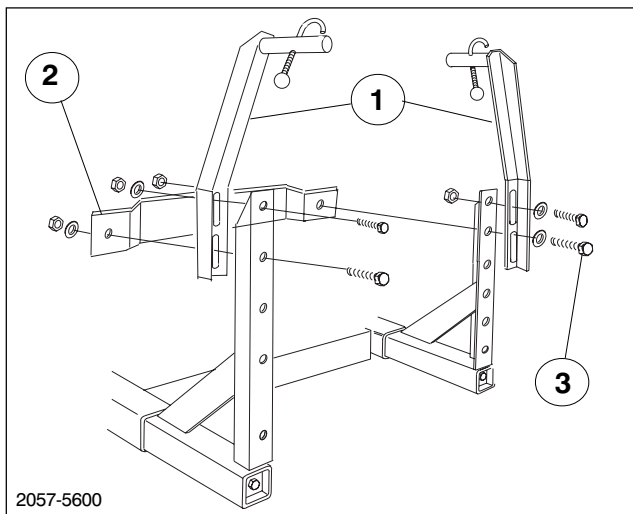

FIG. 2
2. Install the two (2) Boom Hold-In Assemblies along with the Bar Valve Mount using two (2) 1/2" x 1 1/4" Bolts, two (2) 1/2" x 1 1/2" Bolts, four (4) flat Washers and four (4) Locknuts. (See FIG. 2)